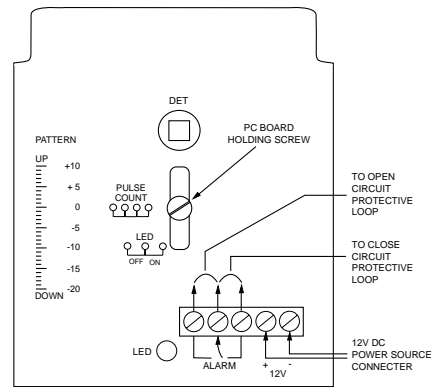

Figure 5. PC Board
5. Re-install the PC board (with terminal block closest to the wiring access slot in the base). Before fully tightening the holding screw, make sure the board is positioned so that the arrow is in line with the appropriate setting on the graduated scale (see Table 1 and Figure 5).
The protection pattern provided by the lens in use can be raised or lowered by repositioning the PC board in the detector. A graduated scale to the left of the board (see Figure 5) indicates the approximate number of degrees by which the pattern can be raised (max. +10°) or lowered (max. -20°). The detector is normally shipped with the board set to the 0° position. To make this adjustment, remove the cover on the detector and loosen the screw holding the PC board (the screw is located at the approximate center of the board). Slide the board upward or downward by the number of degrees required, then tighten the holding screw again. After any adjustment, you must conduct a Walk-Test to ensure proper coverage of the area to be protected, as indicated under *TEST PROCEDURES*.
Bring all wires in through the wire access slot near the terminal block and connect to the screw terminals (see Figure 5 for wiring details). Seal all openings in the base with foam or RTV (not supplied) to prevent drafts or insects from entering the unit. *Apply power only after all connections have been made and are inspected.*
Each detector includes Pulse Count circuitry that is designed to provide stability in adverse environments to minimize false alarms. Selectable 1-, 2-, or 3-event pulse count is provided by positioning a jumper across the appropriate pulse count terminals shown in Figure 5. When programmed for 2- or 3-event pulse count, the detector will signal an alarm within 3 or 4 steps, since the processing logic requires more complex motion than just a momentary event. When the detector verifies an intrusion, the LED (which serves as an alarm indicator) will light and the alarm relay contacts will transfer, both conditions lasting for approximately 1 to 3 seconds (dependent upon signal strength).
The detector is shipped with the Alarm LED enabled (LED CTRL jumper in the "ON" position). If desired, the LED may be disabled (after the Walk-Test is complete) by positioning the LED CTRL jumper in the "OFF" position (see Figure 5). When the jumper is in the "OFF" position, the LED will not illuminate, but the relay will transfer to report alarms when the PIR senses motion.